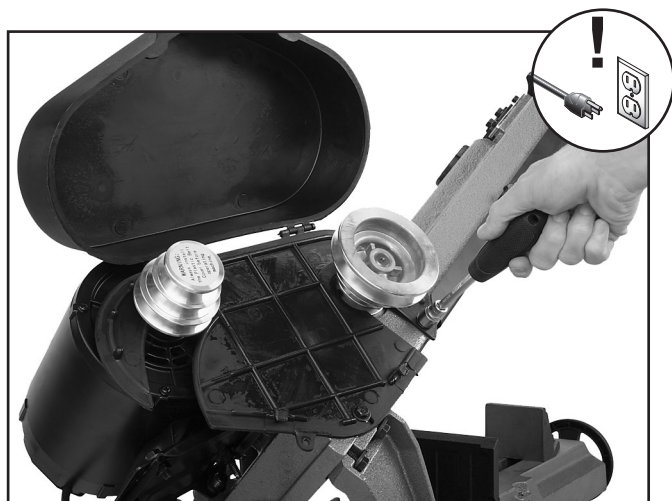

Figure 17. Positioning the pulley cover.
2. Position and rotate the pulley cover into place as shown in **Figure 17**.